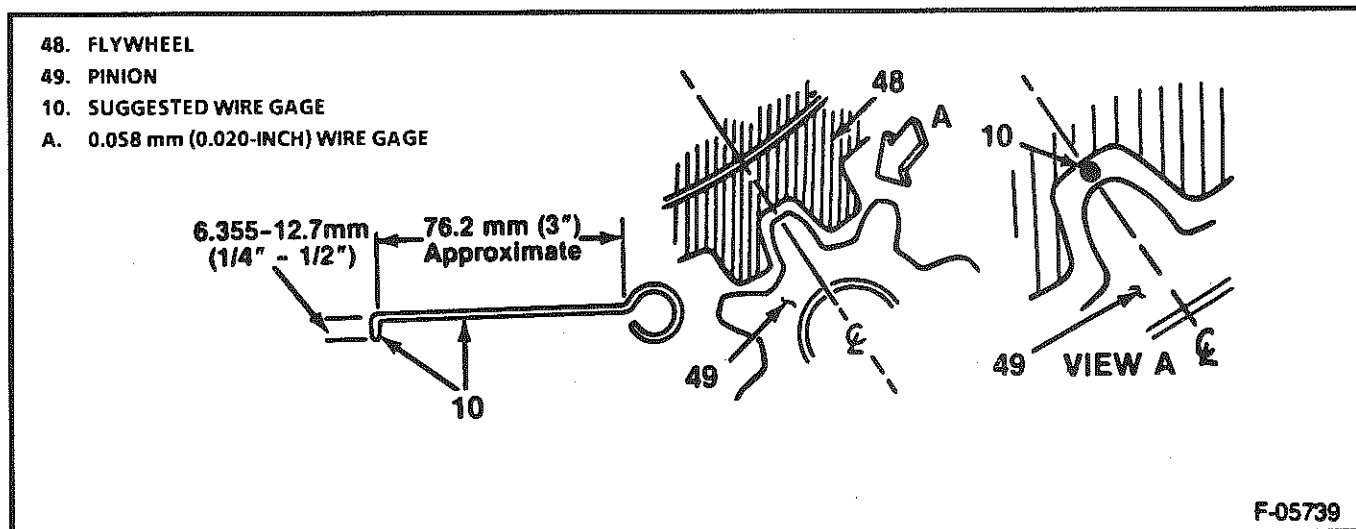
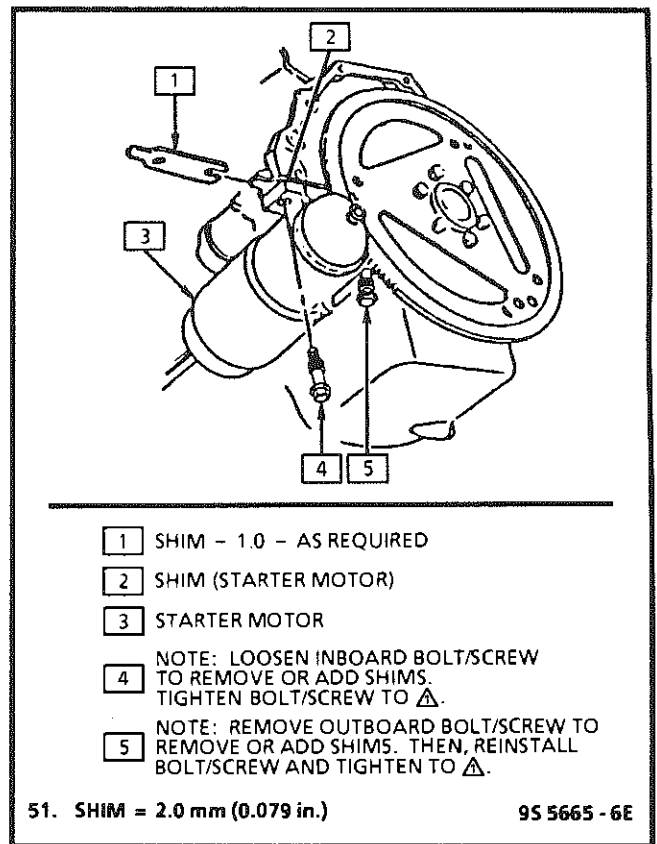

Figure 17 - Flywheel to Pinion Clearance
Figure 18 - Shimming the Starter Motor
8. Insert a screwdriver in the small hole in the bottom of the starter (shown by the arrow in Figure 17) and move the starter pinion and clutch assembly so that the pinion teeth and flywheel teeth are meshed. If necessary, rotate the flywheel so that a pinion tooth is directly in the center of two flywheel teeth and on the centerline of the two gears (Figure 18).
9. Measure the clearance between the top of the pinion tooth and the bottom of the flywheel tooth using the width of the wire gage (Figure 18). Normal clearance is 0.5 to 1.5 mm (0.02 to 0.06 in.).
10. If the clearance is less than 0.5 mm (0.02 in.) and the starter whines after firing, shim the starter away from the flywheel (Figure 18). Add 1.0 mm (0.04 in.) shims, one at a time, between the starter mounting pads and the engine until the noise problem is corrected. Do not use more than 4 shims on the 2.8L engine.